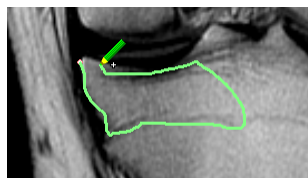

Figure 255 – Drawing a contour with the Freehand tool
4. Press and hold down the left mouse button to draw the contour (see Figure 255).